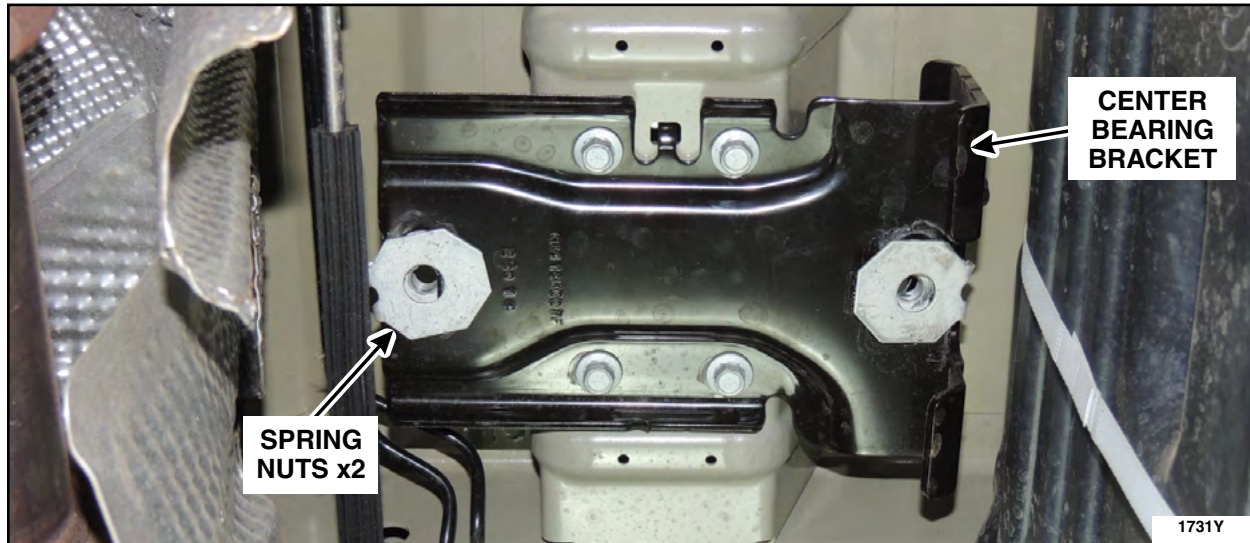

FIGURE 15
1. Remove and discard the four center bearing bracket retaining bolts and the center bearing bracket. See Figure 15.
3. Install the *new* center bearing bracket using four *new* retaining bolts. See Figure 15.